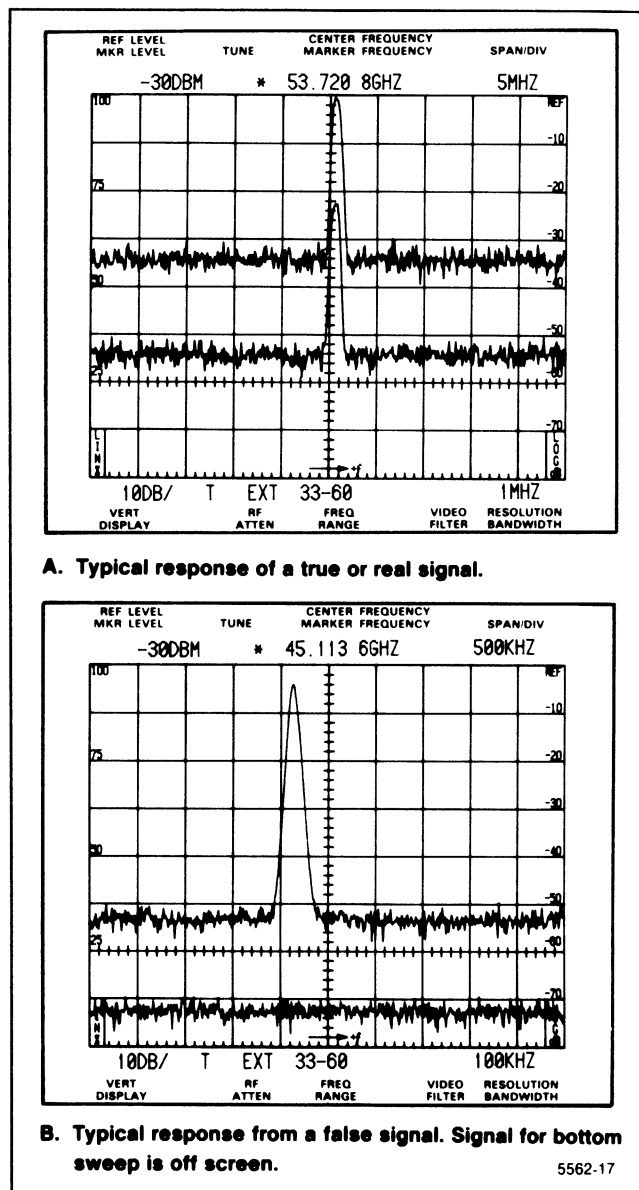

Figure 4-4. Using IDENT to identify a true response.
- b. There will be no horizontal displacement of the 500 MHz signal on alternate sweeps. To help determine if the signal is true or spurious (see Figure 4-4), decrease the sweep rate or push SAVE A with both VIEW A and VIEW B on, so a comparison can be made.